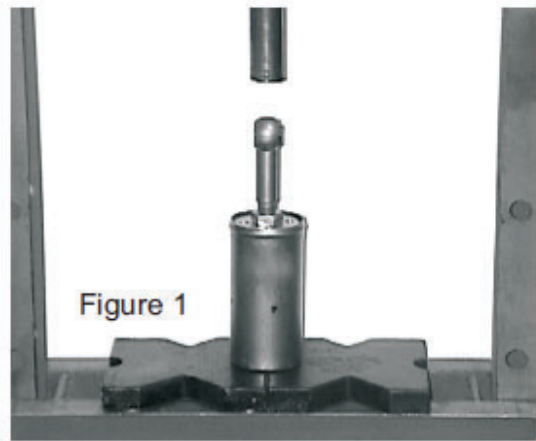
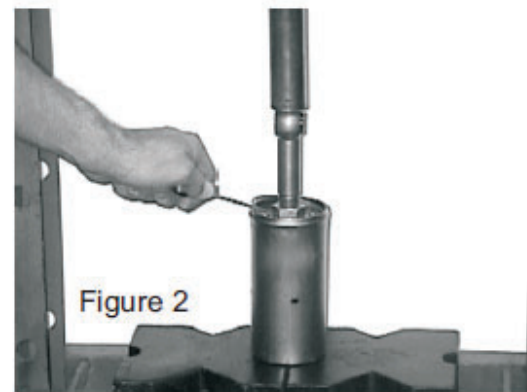

Figure 1
Figure 2
- To disassemble your shock with a hydraulic press, make a fixture to support the shock body as shown in Figure 1. You must leave about 2" of space between the end of the ram and the top of the mount (see Figure 1). Press straight down on the mount with the hydraulic ram; it only needs to be compressed about 1/4" to expose the wire ring. Remove the wire ring with a pick (see Figure 2) and slowly release the hydraulic pressure. Separate the damper from the shock body and spring. You can also disassemble the shock using Progressive Suspension tool # 32-5507. Follow the instructions enclosed with the tool.